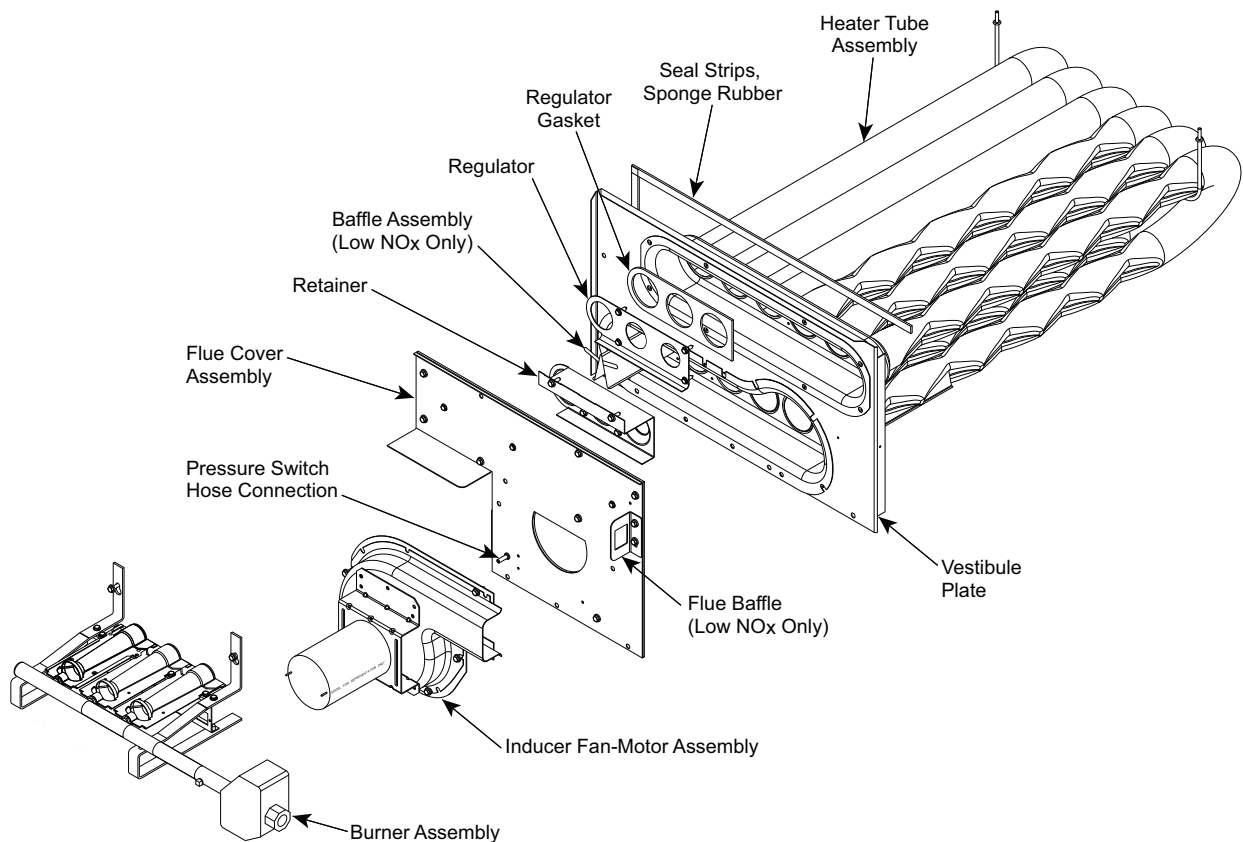

Fig. 55 — Heat Exchanger Assembly
1. Remove the combustion blower wheel and motor assembly according to directions in Combustion-Air Blower section. See Fig. 55.
2. Remove the 7 screws attaching the induced-draft motor housing to the vestibule plate. (See Fig. 55.)
9. Remove the 2 screws attaching the burner rack to the vestibule plate (see Fig. 55).
10. Remove the pressure switch hose from the connection on the flue cover assembly (see Fig. 55).
14. Separate the following from the heat exchanger: inducer fan-motor assembly, flue cover assembly, retainer, regulator, regulator gasket, and if a Low NOx unit, also remove the baffle assembly. See Fig. 55.